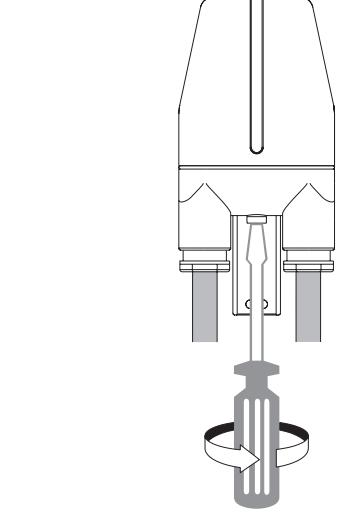

fig.7
- Secure the dome by tightening the captive screw inserted through the bottom of the base. Tighten the screw until the dome presses on the gasket sufficiently to ensure a hermetic seal (fig. 7).